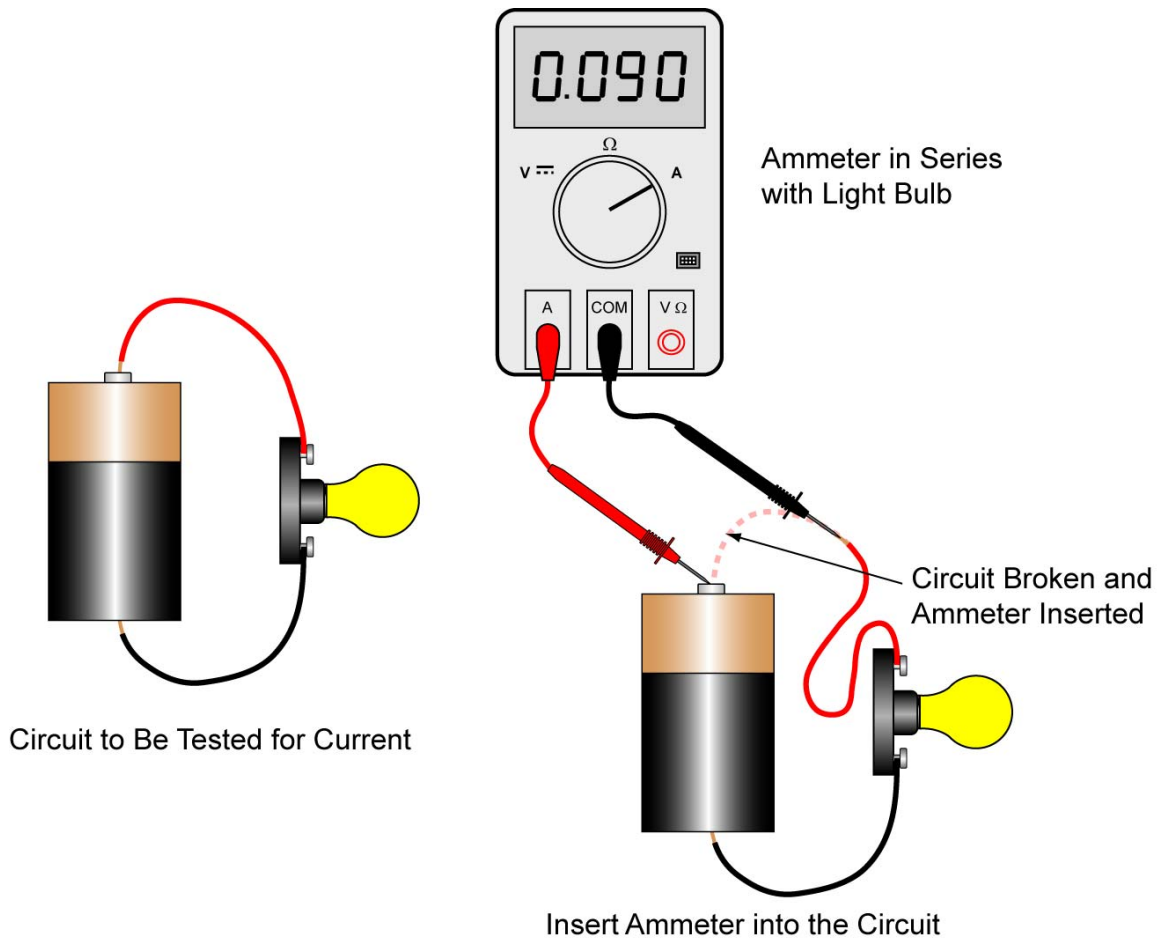

Figure 13: Measuring Current in a Circuit
- An ammeter must always be connected in series (in line) with a circuit component. In other words, the circuit must be broken at the point of measurement and the ammeter inserted so that the electrons flowing through the circuit must also go through the meter (Figure 13).